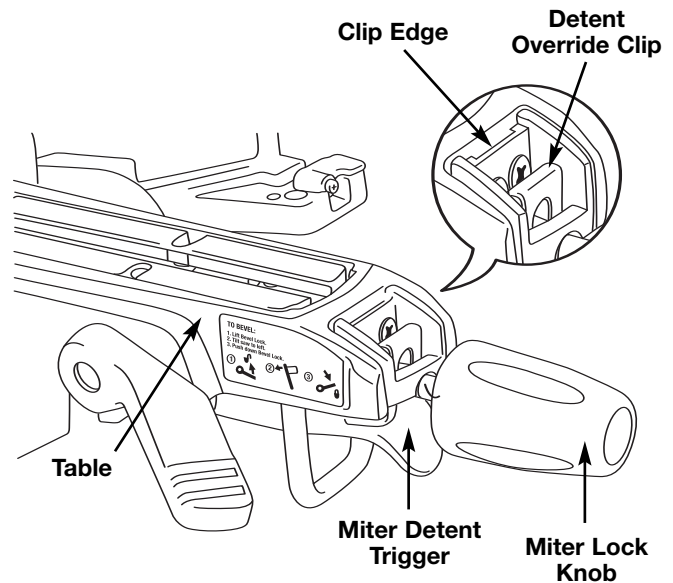

Figure 23. Detent Override
2. Push the detent override clip forward and latch in place over edge. Release miter detent trigger (Figure 23).